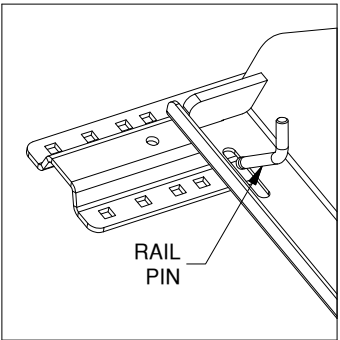

FIGURE B2: View of base leg.
2. Locate the 4 rail pins and hair pins. Insert each pin into the long slots in the base and through the rails. Lock each pin into place with a hair pin, see figure B2 & B3.